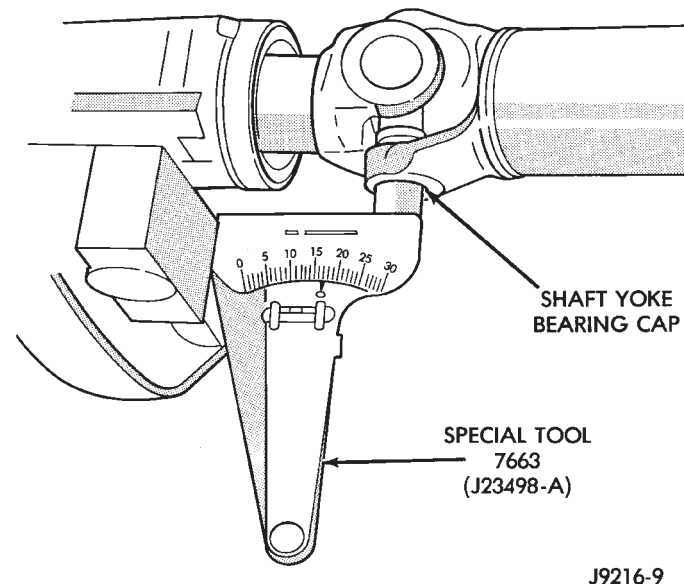

Fig. 6 Propeller Shaft Angle Measurement (C)
- (3) Rotate propeller shaft 90 degrees and place Inclinator on yoke bearing parallel to the shaft (Fig. 6). Center bubble in sight glass and record measurement.